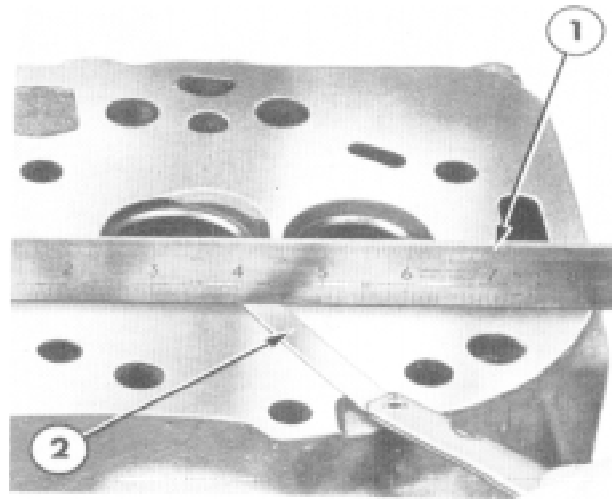

Figure 9
2. With a straight edge and feeler gauge, check the flatness of the cylinder head lengthwise, diagonally and crosswise as shown in Figure 9. Specifications for flatness are 0.006 in. (0.15 mm) maximum over all or 0.003 in. (0.08 mm) in any six inches (152.40 mm)